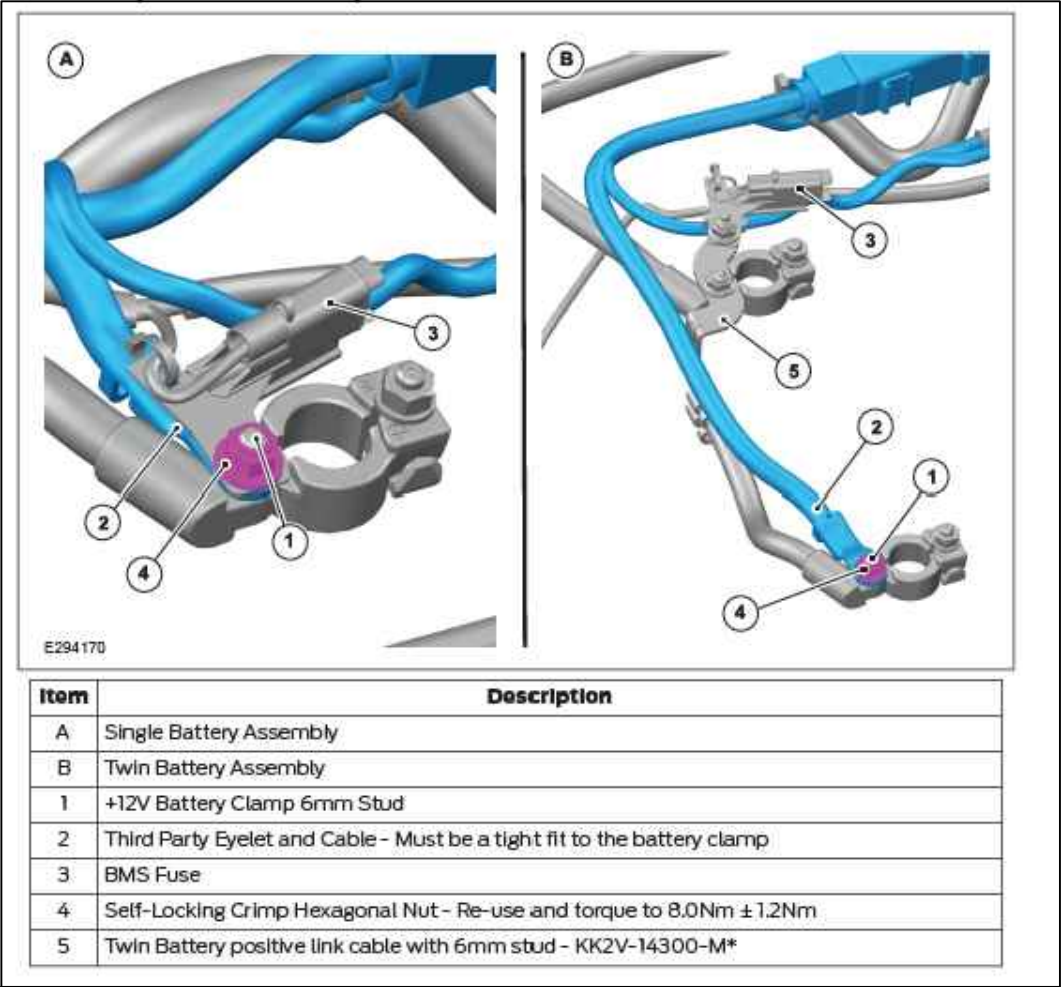

Figure 16: Battery diagram from 2020 Ford Transit Body and Equipment Mounting Manual (BEMM).
16. **Connect** the positive(+) lead to the M6 stud on the positive battery clamp. Reuse the M6 lock nut, when possible (Figure 16).